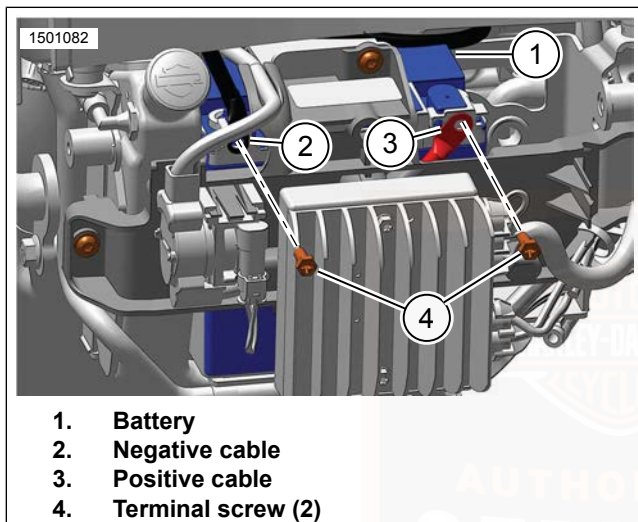
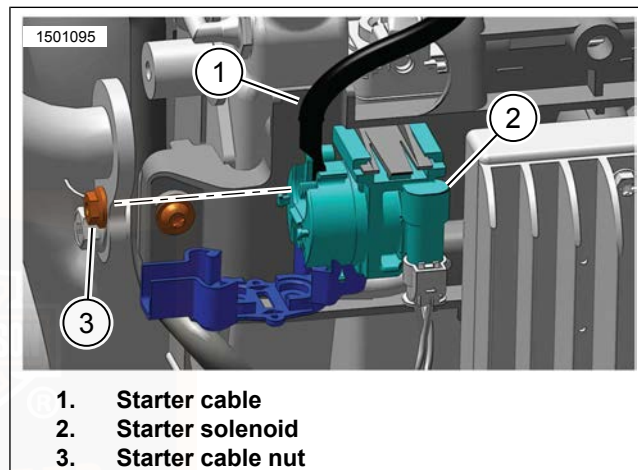

Figure 77. Battery Cables
Figure 78. Starter Cable
2. See Figure 77. Remove battery negative cable (2) from battery (1).
3. Remove battery positive cable (3) from battery.
4. See Figure 78. Remove starter cable (1) from starter solenoid (2).
4. See Figure 77. Install battery positive cable (3) to battery.
6. See Figure 78. Install starter cable (1) to starter solenoid (2). Tighten.